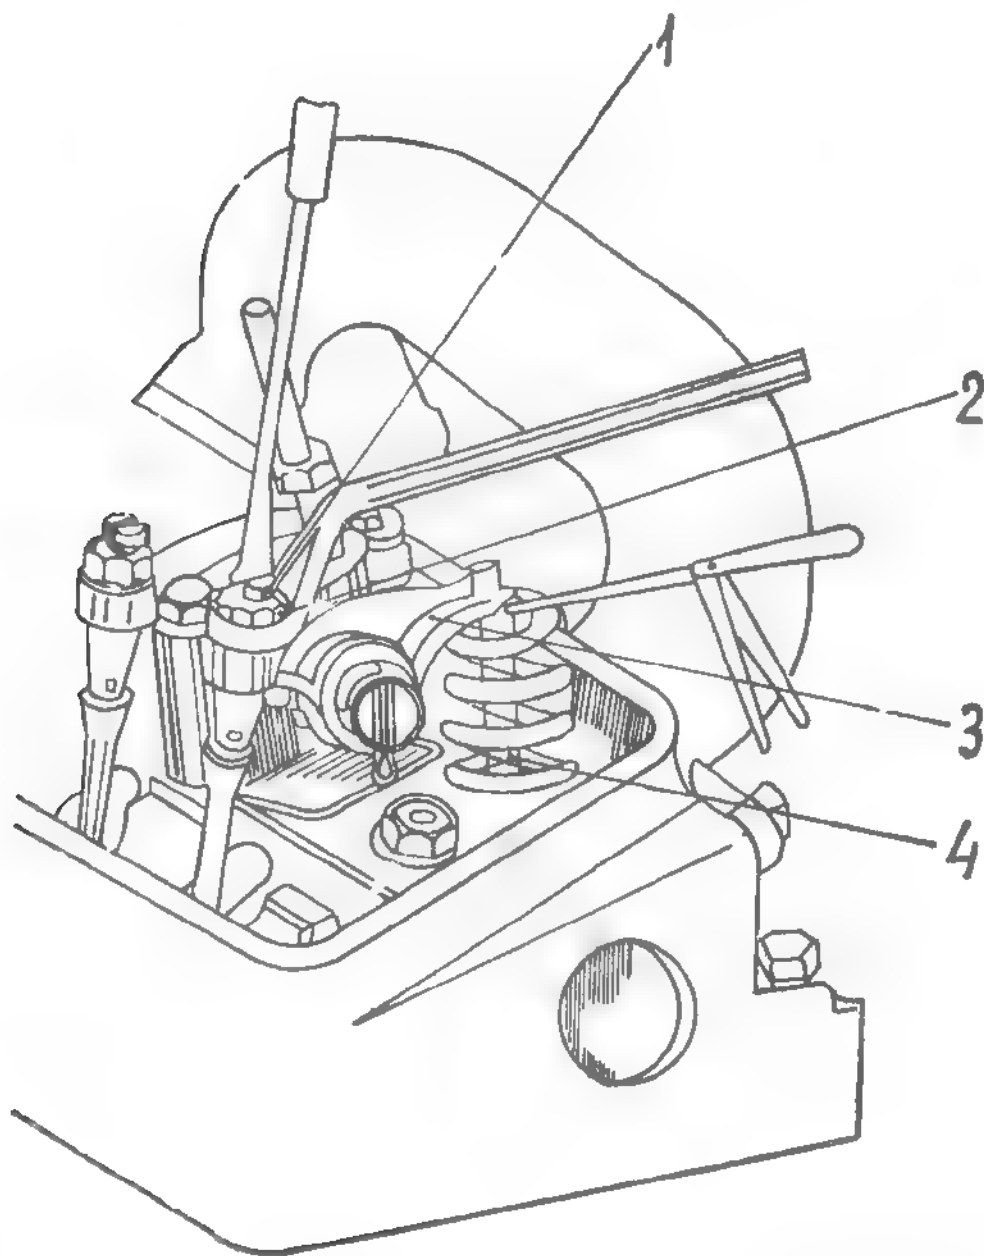

Fig. 2.17. ADJUSTING CLEARANCE BETWEEN VALVES AND ROCKER ARMS.
- Slacken special nut/locking the adjusting screw (1) and by means of a screwdriver turn adjusting screw till required 0.45 mm clearance is obtained (see fig. 2.17). The clearance should be measured with a feeler gauge.
- Lock adjusting screw by tightening special nut (2).